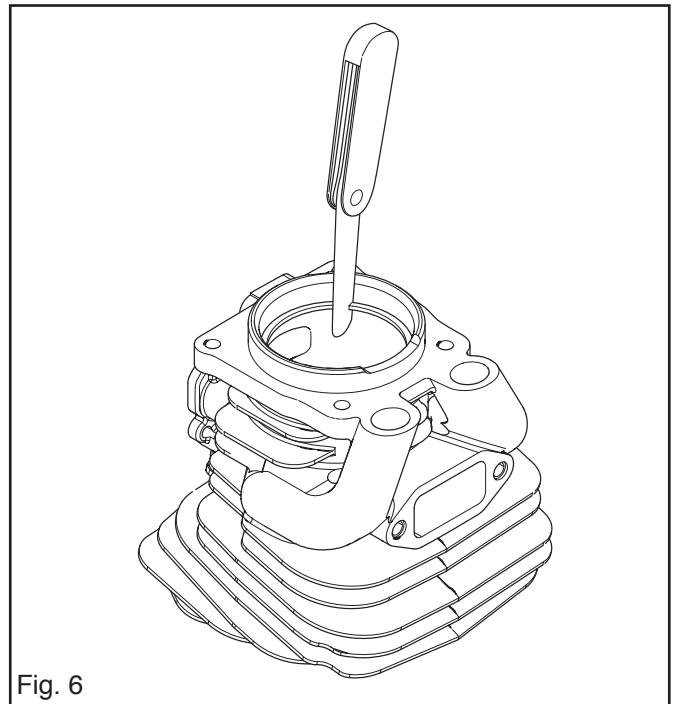

Fig. 6
5. Measure the wear on the piston ring by placing it at the bottom of the cylinder and measuring the gap. See fig. 6. The clearance must not exceed 1 mm.